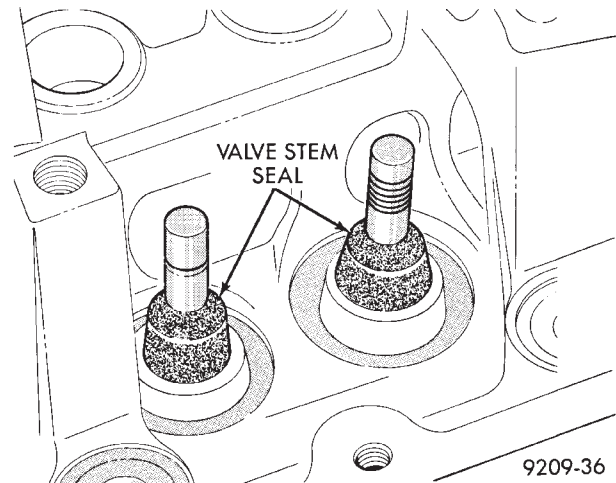

Fig. 13 Valve Stem Seals
(1) Install valve seals (Fig. 13) as outlined in step (2) of **Valve Gear Reassembly - After Valve Service** in this section.
(2) Using Special Tool C-4682 compress valve springs only enough to install locks. Correct alignment of tool is necessary to avoid nicking valve stems (air pressure required), piston at TDC.
(3) Install rocker arms as previously outlined in this section.